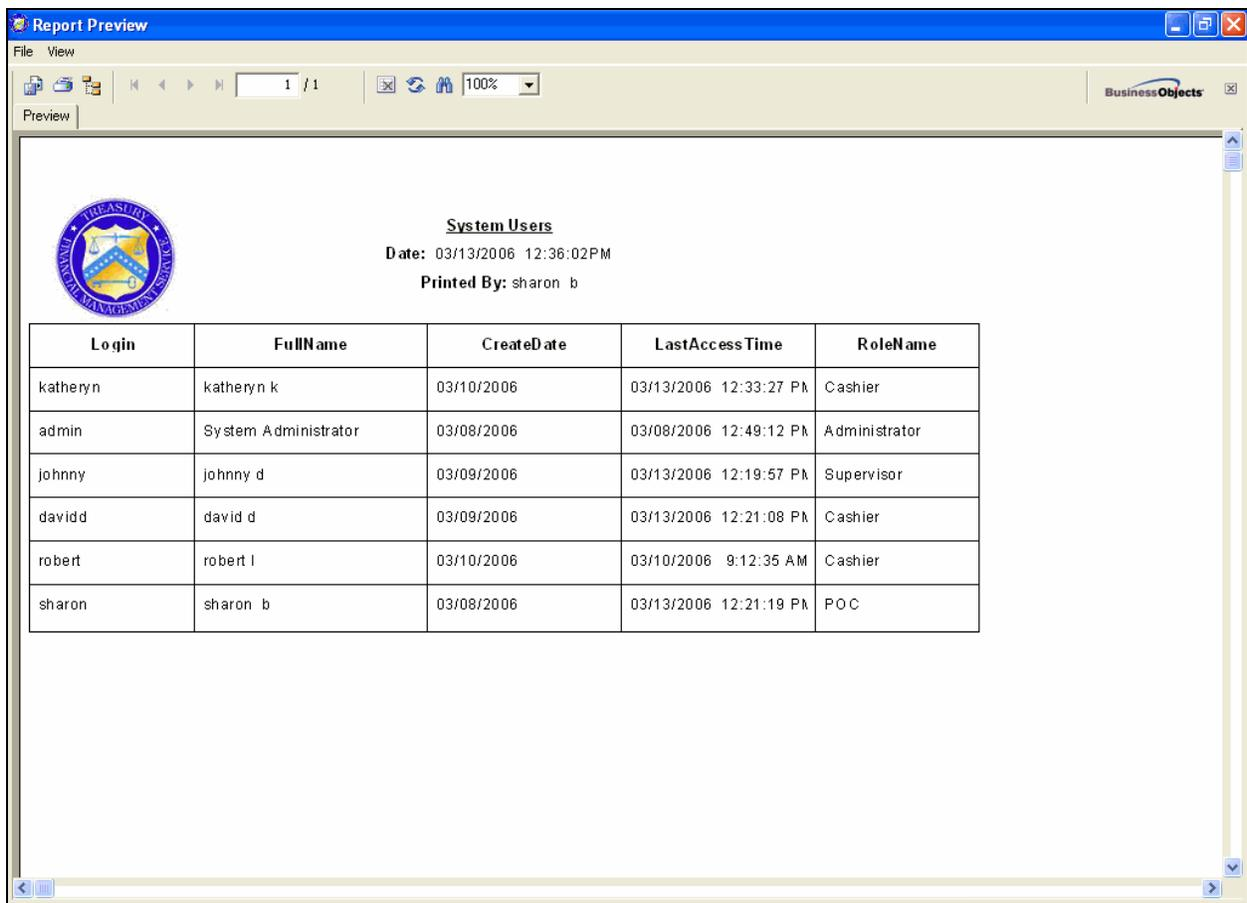

Figure 3.27.1
3. Click the 'Print' icon  from the User Administration screen. A preview of the System User Report will be displayed on the computer's screen as displayed in Figure 3.27.1. To print the report, click the printer icon  at the top of the screen, or click 'File', then 'Print' from the menu at the top of the screen.